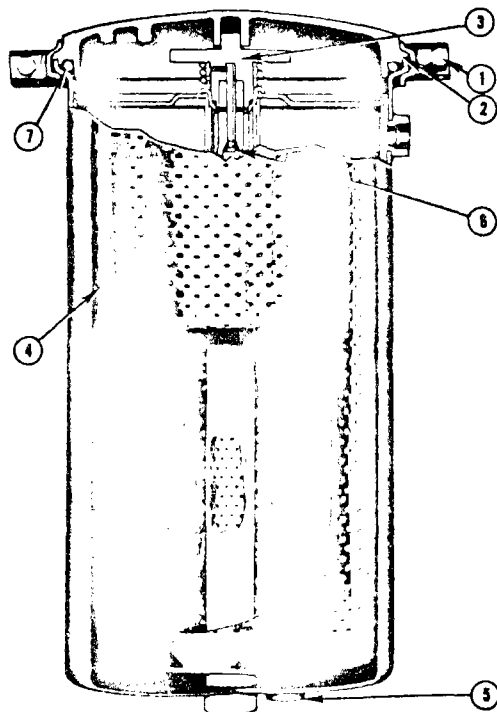
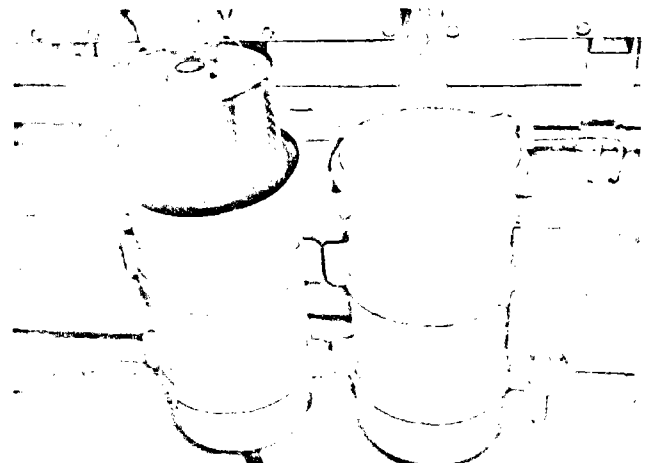

Fig. 2-17. (V41908). By-pass filter cross section
Fig. 2-18. (K21908). Installing by-pass filter element
1. Remove the drain plug (5, Fig. 2-17) and drain oil.
2. Remove the clamping ring cap screw (1) and lift off the cover.
3. Unscrew the support hold-down assembly (3); lift out the element (4) and the hold-down assembly. Discard the element.
7. Check the orifice plug (6) inside the oil outlet connection or standpipe; blow out with air to open and clean.
8. Check the filter cover O-ring (7). Replace if necessary.
9. Install the new element in the housing, Fig. 2-18.